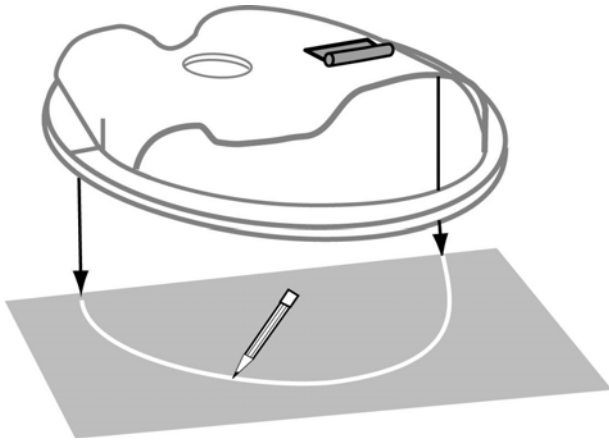

Figure 26
- a) Using the vertical Reference Lines (**Figure 17** on page 12), place the Template Board beneath the Discharge Chute with the leading edge aligned to the Reference Lines (**Figure 26**) and centered right to left.
- b) Clamp the Template Board in place and trace the outer edge of the Discharge Chute on to the Template Board (**Figure 26**).